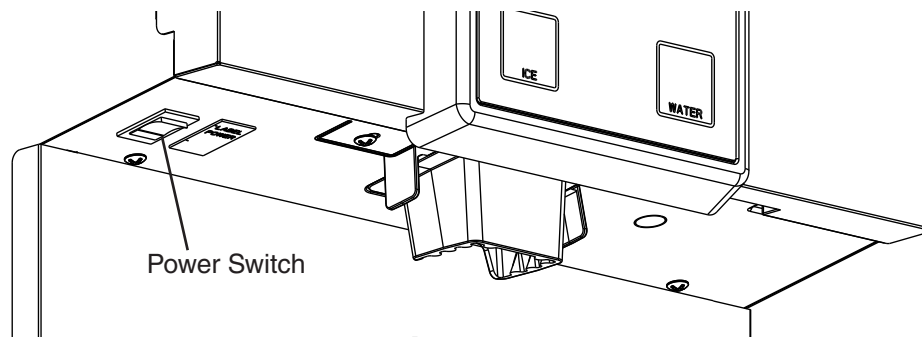

Fig. 5
- 4) Plug the appliance into the electrical outlet, then move the power switch to the "ON" position to start the automatic icemaking process. See Fig. 5.